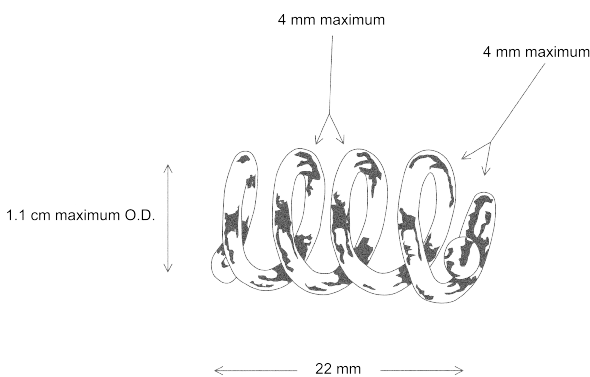

Figure 1. Sinkers.
**Apparatus 2:** 100 rpm, with sinkers made of Teflon-coated steel wire prepared by forming a coil approximately 22 mm long from a 13-cm length of 20-gauge wire (see *Figure 1*)
**Apparatus 2:** 100 rpm, with sinkers made of Teflon-coated steel wire prepared by forming a coil approximately 22 mm long from a 13-cm length of 20-gauge wire (see *Figure 1* in *Dissolution Test 2*)